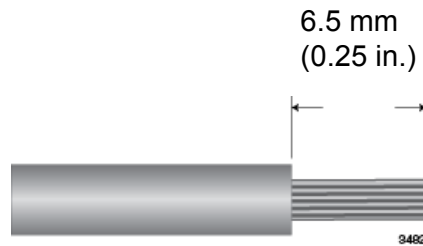

Figure 36. Stripping a Stranded Power Wire
5. Remove 6.5 mm (0.25 in.) of insulation from one end of the black RETURN wire. Refer to Figure 36.
7. Remove 6.5mm (0.25 in.) of insulation from one end of the red -48/-60VDC wire. Refer to Figure 36 on page 83.